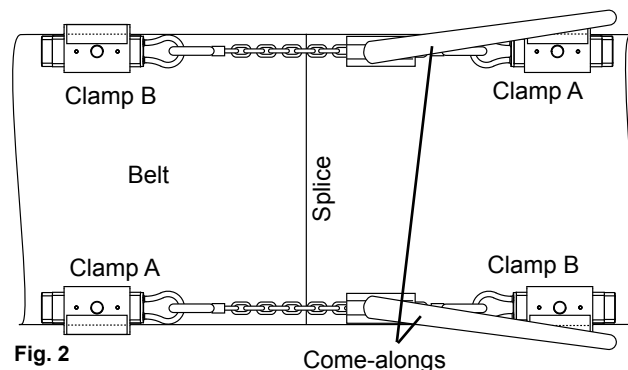

Fig. 2
a. **Clamp-To-Clamp (preferred method):** Attach come-alongs to pull loop of clamps across the splice (See Fig. 2).